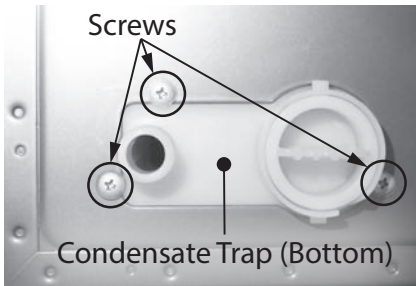

Figure 199 - Location of condensate trap screws.
**7** The condensate trap drain is located underneath the water heater (see Figure 199). Disconnect drain piping to the plastic condensate drain. Place a bucket or pan underneath to collect water during removal.
**12** Locate the three (3) screws underneath the water heater securing the condensate trap. See Figure 199. Use a Phillips screwdriver to remove the screws. Place screws aside in a safe place for reinstallation.